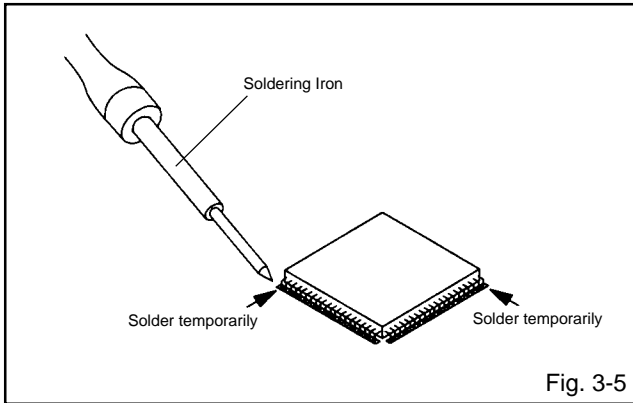

Fig. 3-5
1. Take care of the polarity of new IC and then install the new IC fitting on the printed circuit pattern. Then solder each lead on the diagonal positions of IC temporarily. (Refer to Fig. 3-5.)